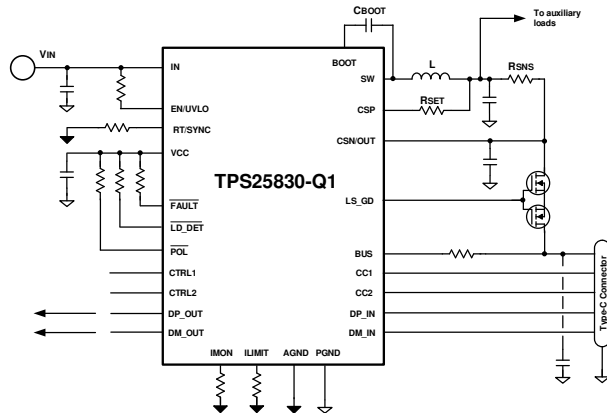
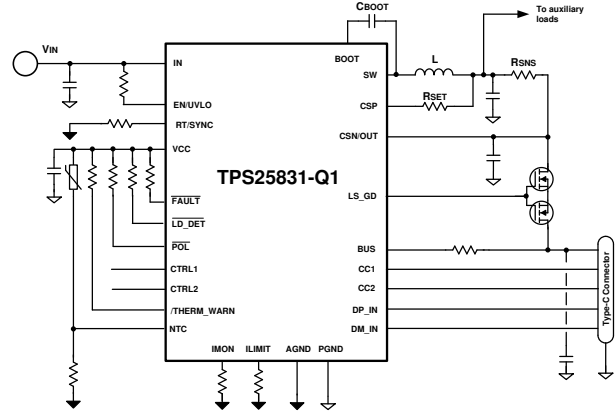

图 54. TPS25830-Q1 Current Limit with External MOSFET
图 55. TPS25831-Q1 Current Limit with External MOSFET
- With external MOSFET 图 54, 图 55:
The TPS2583x-Q1 has integrated NFET gate drivers, and can support current limit with external NFET. Refer to 图 54.